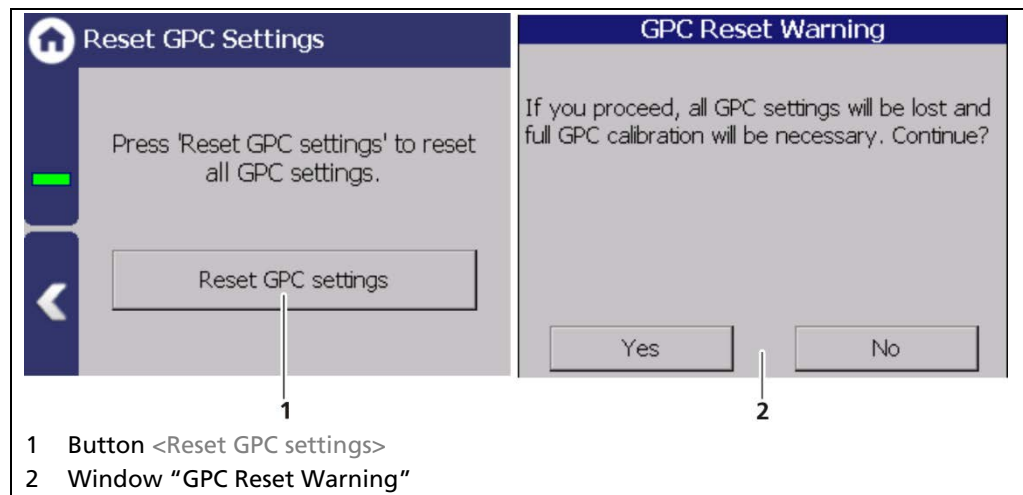

Fig. 82 Reset GPC Settings
1. Click on the button <Reset GPC settings> (Fig. 82, item 1).
- ▶ A confirmation message (Fig. 82, item 2) appears.